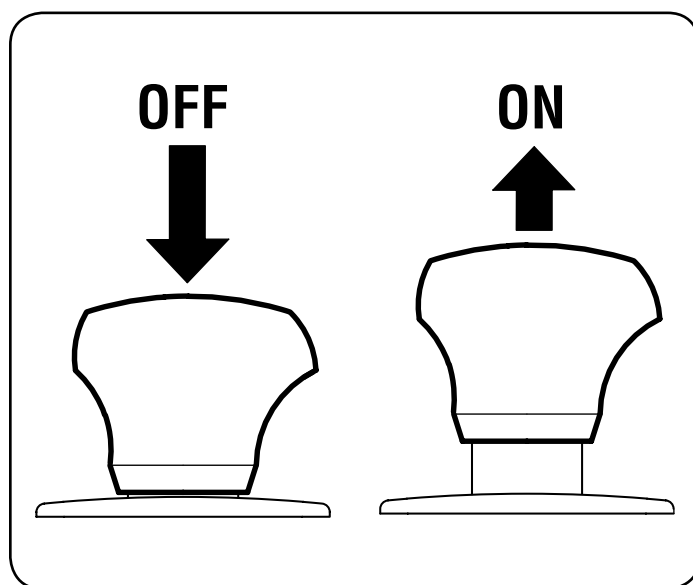

Figure 15
2. Pull the PTO/Blade Engage knob outward into the engaged (ON) position. See Figure 15.